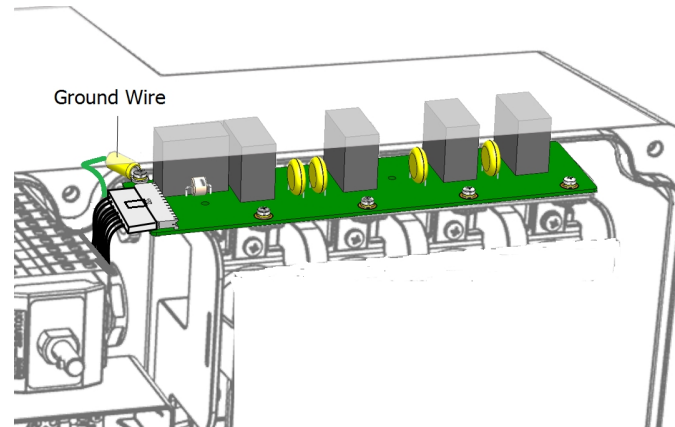

Figure 4: AC SPD Board Removal
4. Remove the screw securing the lug of the ground wire to the AC SPD Board and remove the board (see *Figure 4*).
2. Connect the ground wire to the provided AC SPD Board and fasten the lug screw with a torque of 2.6 N*m (1.91 lb*ft). (see *Figure 4*).